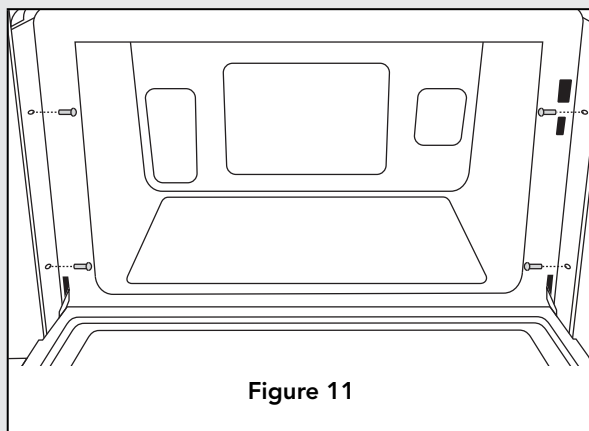
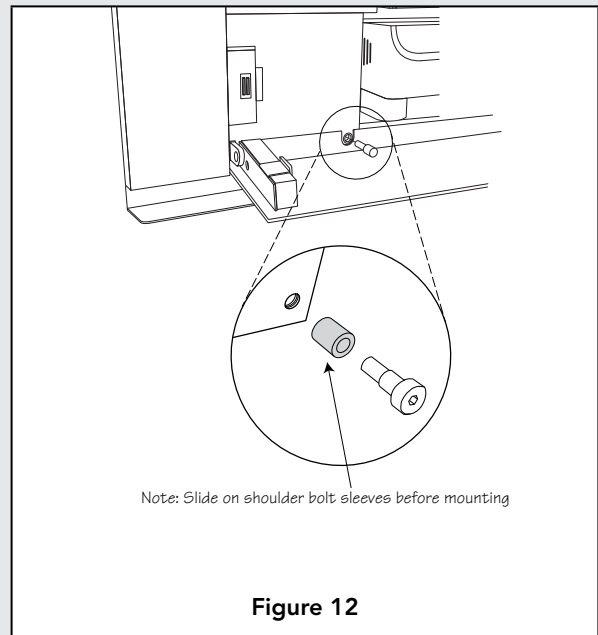

Figure 11
Figure 12
5. Open the oven door and insert the 4 mounting bolts supplied. Do not completely tighten. See Figure 11.
6. Open the drip tray door and insert the 2 shoulder bolts supplied. See Figure 12. Do not completely tighten.
7. Check alignment of oven then tighten the 4 mounting bolts in Figure 11 and the 2 shoulder bolts in Figure 12 to secure oven.